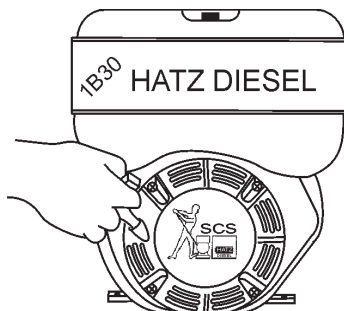

Figure 21. Starter Grip
3. **Pull** the **starter grip** (Figure 21) lightly until you feel resistance, then pull briskly. Return the starter grip gently.